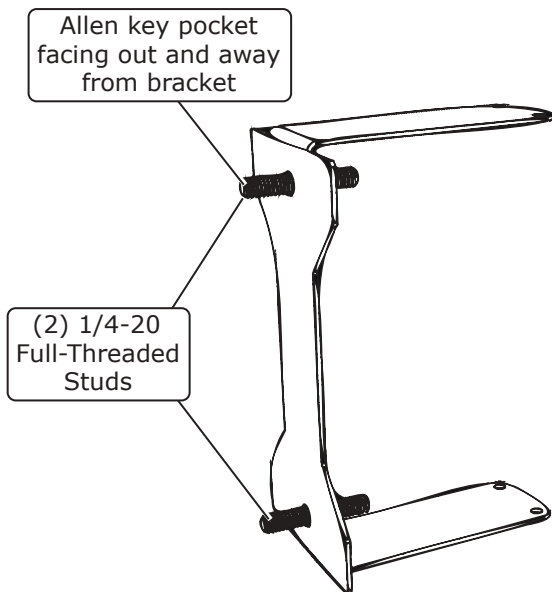

Figure 11
7. With the (2) 1/4-20 full-threaded studs, install each stud to the firewall bracket weld nuts (See Figure 11, below). **NOTE: Studs have an Allen key pocket end for 1/8" key'd wrench. Allen key pocket is to be facing out and away from the bracket to be accessible for later removal (See Figure 11, below).**
8. Place the evaporator module onto the passenger-side floor board with the heater hardlines facing up, locate the (2) heavy gauge orange and white wires coming off. Insert the (2) wires through the previously installed wiring grommet on the firewall (See Photo 1, below).
9. Install the (2) 5/8" heater hoses coming through the firewall, connect the lower hose onto the lower heater hardline and the upper hose onto the upper heater hardline, secure with the (2) supplied hose clamps.